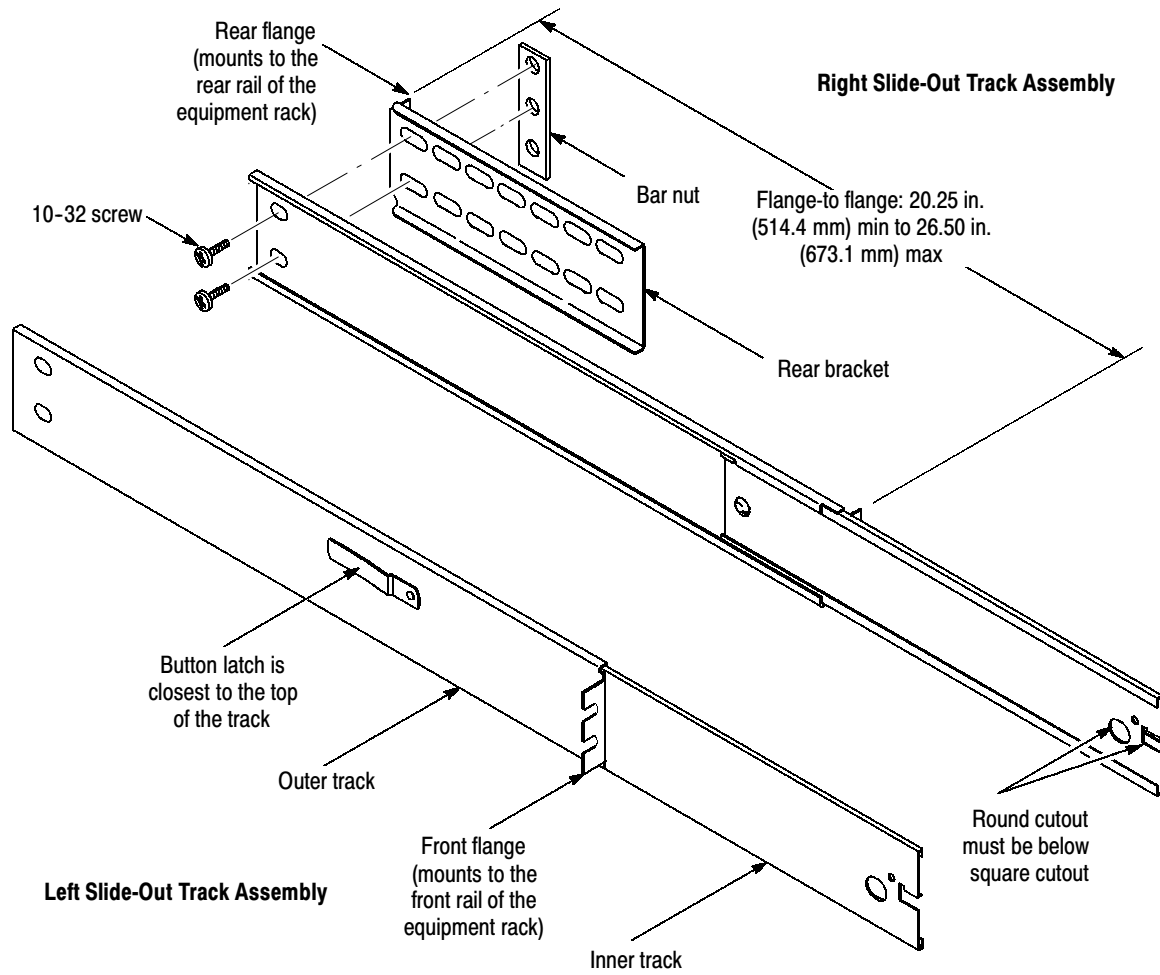

Figure 6: Assembling the slide-out tracks
When the left and right slide-out tracks are correctly assembled and oriented as shown in Figure 6 on page 15, the round cutout is below the square cutout at the end of the both inner tracks.
3. Align one of the rear brackets to the right slide-out track assembly as shown in Figure 6.
NOTE. *The rear brackets have multiple pairs of mounting holes. When you align the rear bracket and the slide-out track, be sure to select a pair of holes that mount the rear bracket so that the flange-to-flange distance (see Figure 6) matches the front to rear rail measurement from step 2.*
4. Use a screwdriver with a #2 Pozidrive tip to secure the rear bracket to the right slide-out track using two screws (10-32) and a bar nut as shown in Figure 6. Leave the screws loose so that the overall length of the slide-out track assembly can be adjusted when you install it in the rack (refer to step 4 on page 17).